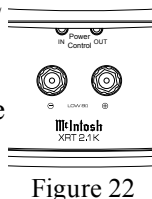

Figure 22
4. Connect a power control cable from Power Amplifier B POWER CONTROL OUT the XRT2.1K POWER CONTROL IN. Refer to figure 22.